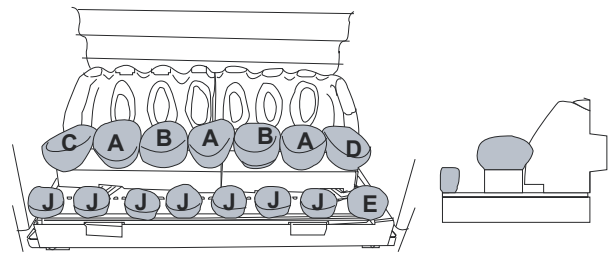

Figure 25
- Insert the J & E pebbles centrally onto the spikes and place the A & B pebbles on the middle matrix ensuring the same orientation as shown in **Figure 25**.